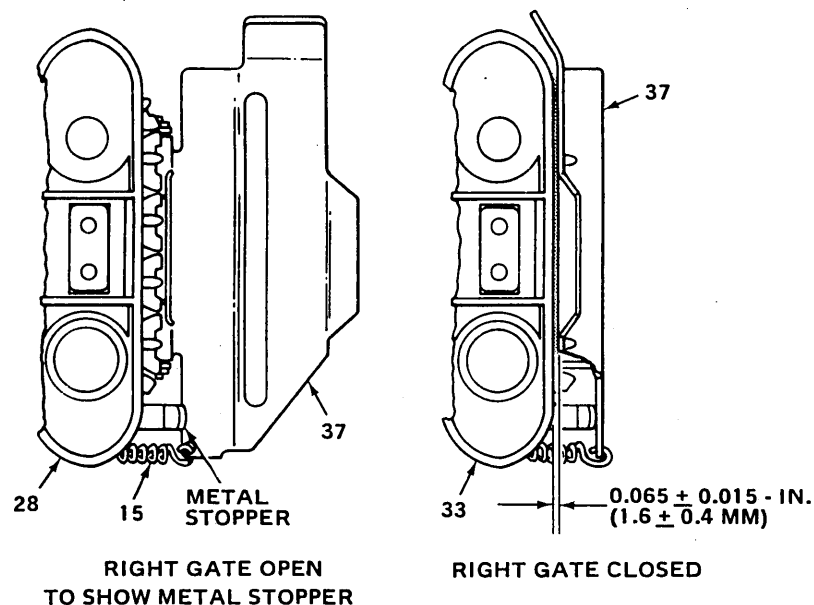

Figure 5-11. ADJUSTMENT FOR PAPER HOLDER GATE
1. Clearance between belt guide unit (33) and the paper holder gate, when closed, should be 0.065 ± 0.015 -inch (1.65 ± 0.4 mm) to hold paper in place when printer is operating.
2. Adjust for clearance by bending right angle metal stopper at bottom of pin feed holder (11, 38), (See Fig. 5-11).